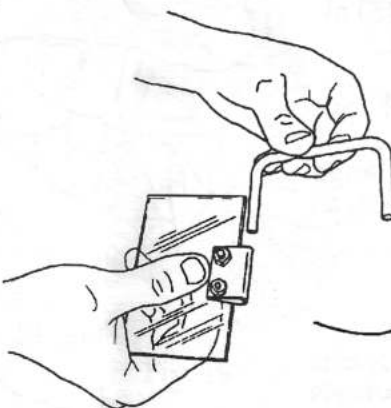

Fig. 5
5. Insert an end of the U-shaped shield bar (8) through the shield hinge, as shown in Fig. 5.